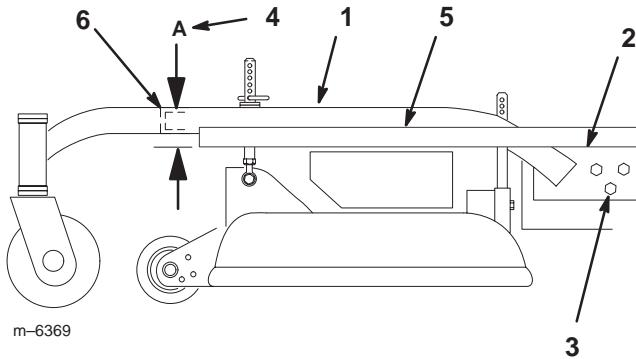

Figure 54
3. Place a long straight edge on top of the engine deck as shown in figure 54.
4. At the carrier frame cross tube, measure location A height (Fig. 54). This measurement must be 1-5/16 inch (33 mm), plus or minus a 1/4 inch (6 mm).
6. Loosen the carrier frame mounting bolts on both sides of the machine (Fig. 54).
7. Align the carrier frame and engine deck to match 1-5/16 inch (33 mm), plus or minus a 1/4 inch (6 mm) at location A (Fig. 54).